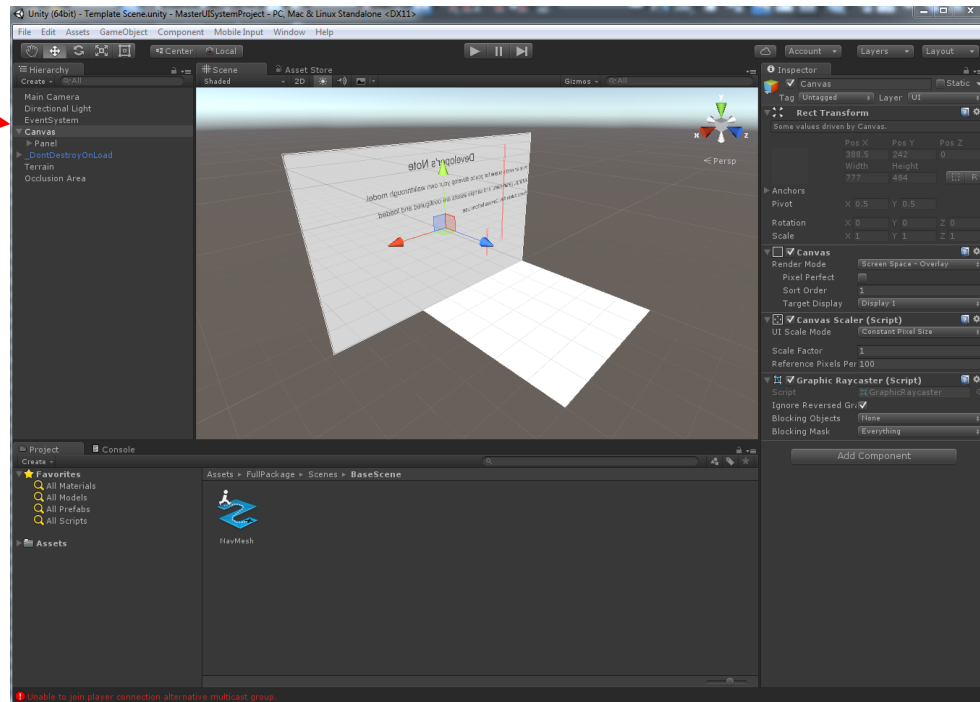

FIGURE 24: TEMPLATE SCENE IN UNITY
- b. After the file is downloaded and extracted, open the unity project called MasterUISystemProject. Then open the scene called "Template Scene". Before uploading the 3D model into the scene, delete the 'Canvas' that has 'Developer's Note'(See Figure 24).